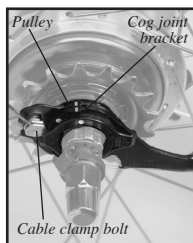

Figure 23- Pulley and cog joint bracket
2. Align the indicator on the rear hub pulley (Figure 23) with the cog joint bracket.